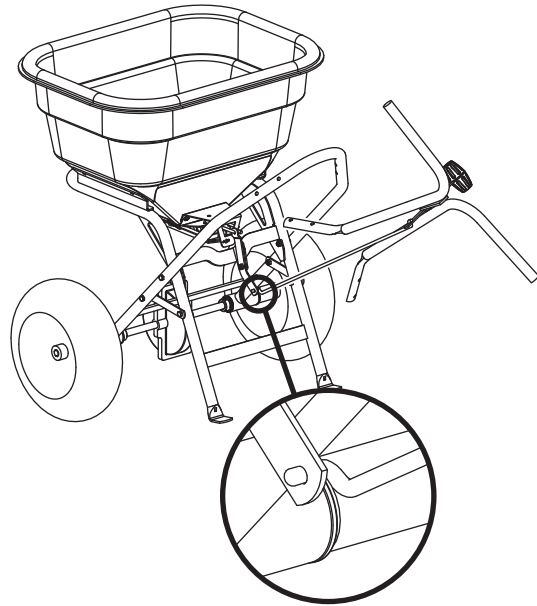

Figure 4
6. Turn handle/linkage assembly sideways and insert end of linkage into rate gate linkage, Figure 4.